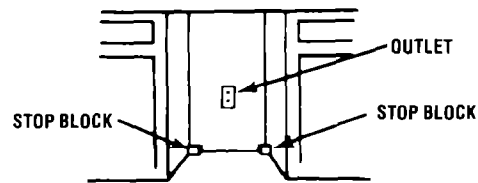

FIGURE 7
6. To prevent the power supply cord from being pinched, or the power supply cord plug from being crushed, install a stop block at the lower rear corners of the recessed opening. The blocks should be at least ¾" (1.27 cm) deep by 2" (5.1 cm) wide, by 2" (5.1 cm) high. See Figure 7. for details.